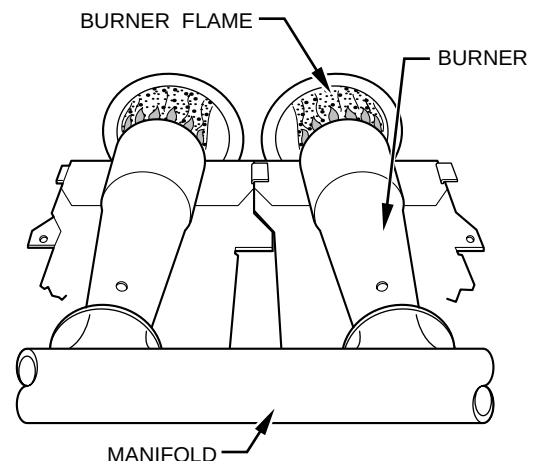

**Fig. 9—Burner Flame**
16. Check furnace operation through 2 complete heat operating cycles. Look through sight glass in burner enclosure to check burners. Burner flames should be clear blue, almost transparent. (See Fig. 9.)